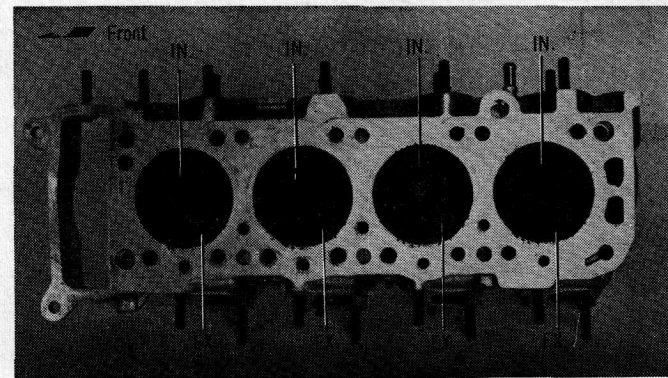

Fig. 60 Valve Arrangement
(4) Using a valve lifter, compress the spring and install the retainer lock. (Fig. 60)